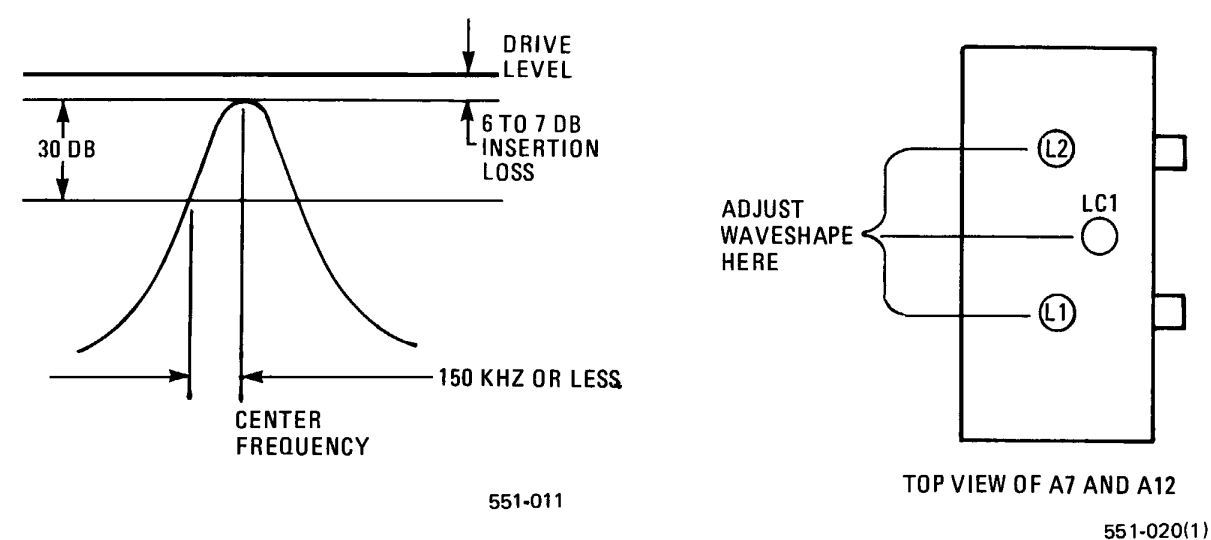

Figure 4-9. Low Band Assembly Wave Shape Adjustment
5. On low band assembly, A7 or A12, the three adjustments are used to obtain the wave shape shown in figure 4-9. Adjust for wave shape and insertion loss only.